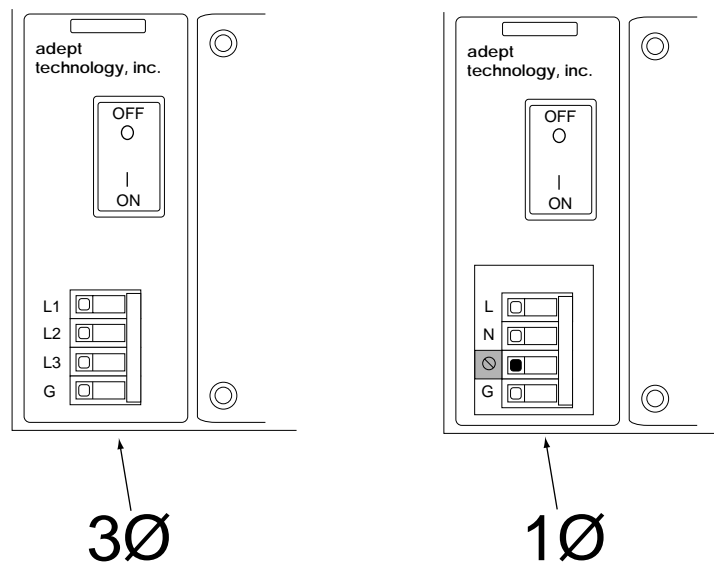

Figure 5-1. Power Entry Module on Adept PA-4 Chassis (Model 3303)
Connect the user-supplied power cord to the power entry module at the lower left side of the front of the chassis as described in the following procedure. See Figure 5-1.
2. Loosen the screws in the terminals at the power entry module. Insert the individual wire ends of the cord into the correct terminals; see Figure 5-1.